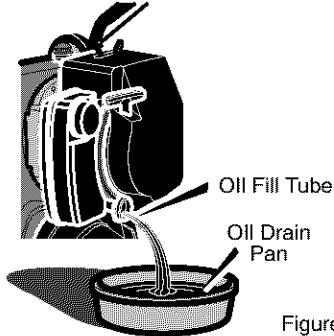

Figure 12
2. Put an oil drain pan under the oil fill tube (See Figure 12).